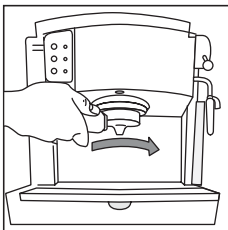

fig. 4
2. Attach the empty filter holder (without coffee) to the machine by positioning it under the boiler outlet with the handle towards the left (fig. 4). Push upwards and at the same time turn the handle as far right as possible. It does not matter if the handle is not centrally aligned with the machine, as long as the filter holder is firmly attached to the appliance.
4. Remove any excess coffee from the rim of the filter holder. Attach the filter holder to the machine by positioning the handle to the left of the boiler outlet, then pushing upwards and turning the handle to the right (as in preheating the machine fig. 4).
3. Attach the filter holder onto the machine, moving from left to right (fig 4).